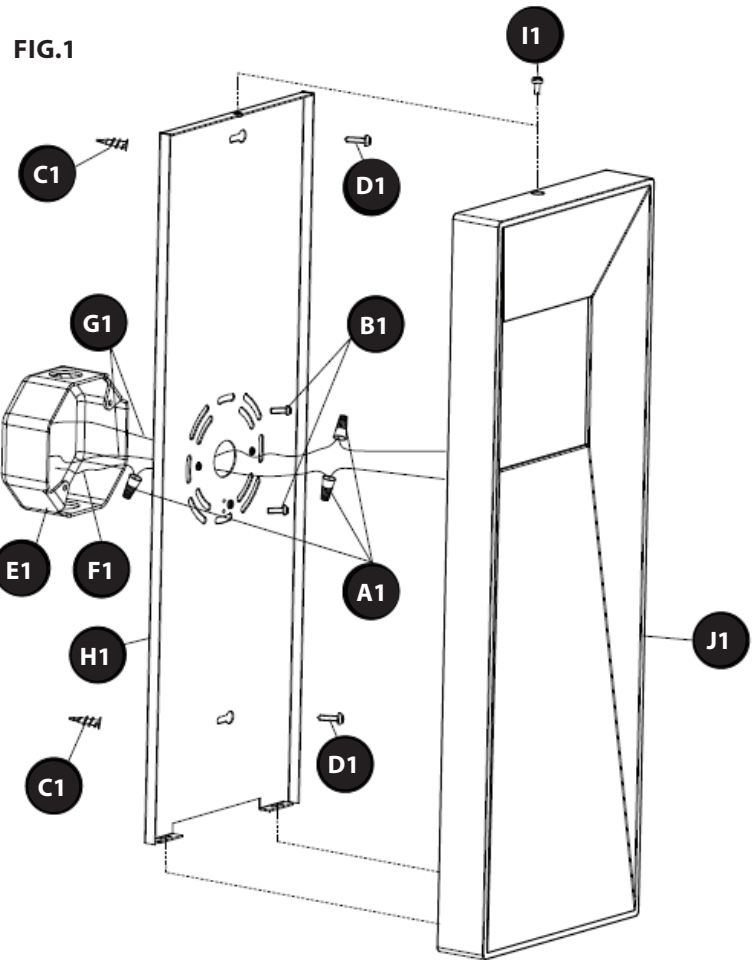

FIG.2
CONNECTING THE WIRES (Fig. 2)
5. Connect the supply wires (F1) with the transformer input wires as shown in Fig.2.
7. Connect the transformer output wires with fixture wires as shown in Fig. 2 making sure that all wire connectors (A1) are secured. If your outlet box has a ground wire (green or bare copper), connect the fixture's ground wire to it. Otherwise, connect the fixture ground wire directly to the mounting back plate (H1) using the green screw provided. After wires are connected, tuck them carefully inside the junction box.